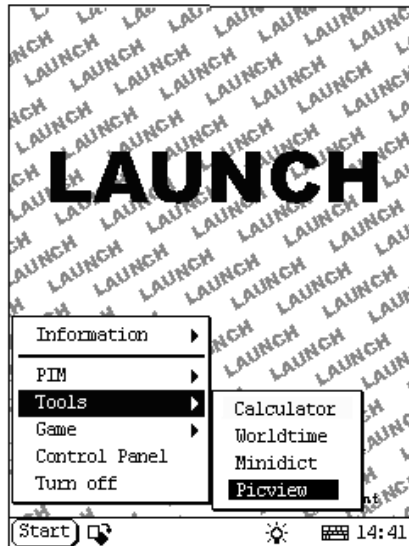

Figure 4-10
- 2) Select 'Tools' in the pop-up menu. (See Figure 4-10)